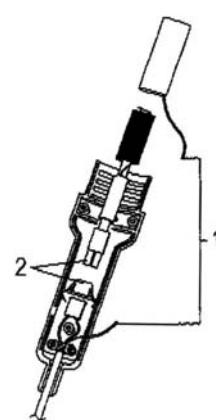

Fig.3
2. Adjust the heating element to a higher temperature allowing the clogged solder to melt. Clean the tip by sliding the spring wire up and down until the passage is clear. (See Fig. 3)
(See Fig.3)